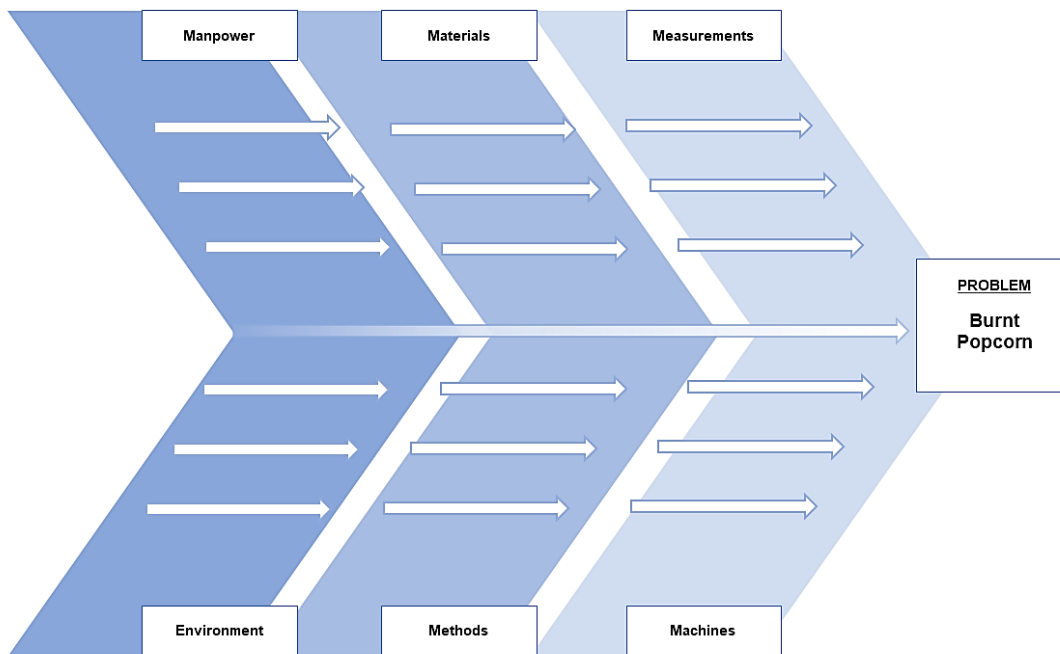

Figure 4. Blank Ishigawa fishbone diagram.
2. The Ishigawa fishbone diagram (Figure 4) is a tool used to determine the root cause of a problem. It enables a team to brainstorm and categorize all the potential problems that could be the cause of a problem so they can be systematically eliminated until the real cause or causes is/are identified.